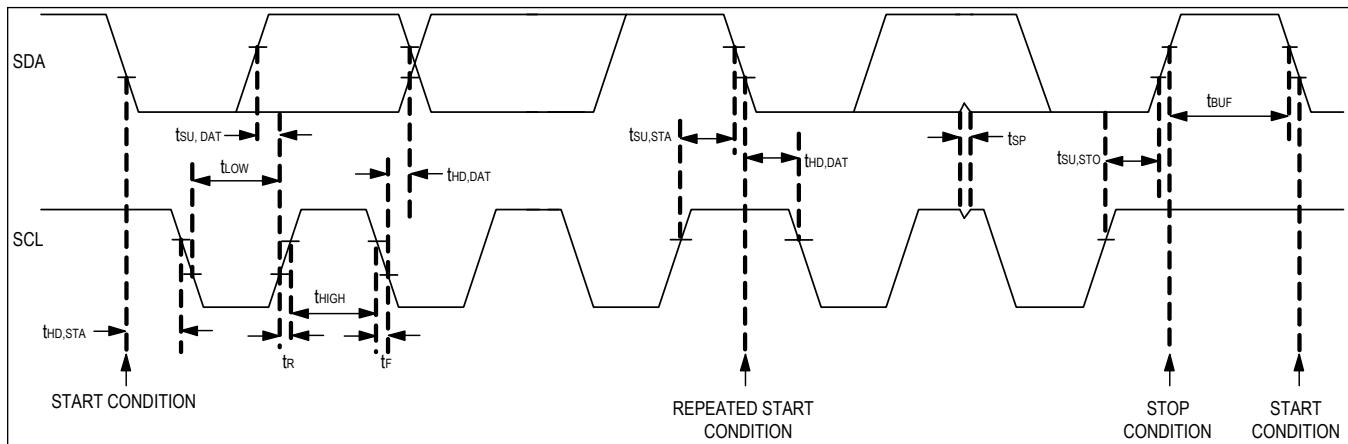

Figure 2.  $I^2C$  Timing Diagram
The ICs feature an I2C, 2-wire serial interface consisting of a serial-data line (SDA) and serial-clock line (SCL). SDA and SCL facilitate communication between the ICs and the master at clock rates up to 3.4MHz. The master, typically a microcontroller, generates SCL and initiates data transfer on the bus. Figure 2 shows the 2-wire interface timing diagram. A master device communicates with the ICs by transmitting the proper address followed by the data word. Each transmit sequence is framed by a START (S) or Repeated START (Sr) condition and a STOP (P) condition. Each word transmitted over the bus is 8 bits long and is always followed by an acknowledge clock pulse.